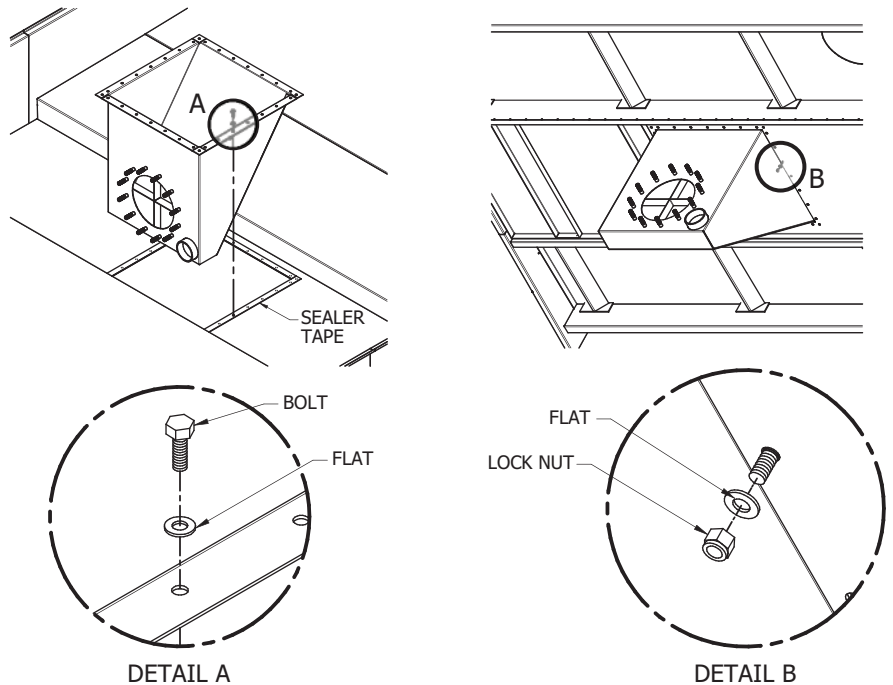

Figure 22 – Side Outlet Depressed Sump Box Installation
1. Locate square opening in the deepest part of the towers basin. Apply sealer tape over the bolt holes surrounding the opening, as shown in Figure 22.